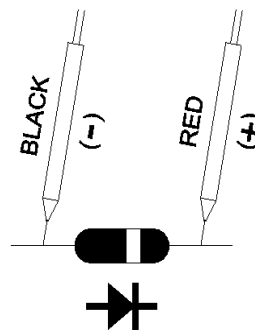

Fig.3
- b. When connected as shown in Fig. 3, a reverse check on the diode is made. If the diode under test is good, " — — — " will be displayed. If the diode under test is defective, " 0.000 " or other numbers will be displayed. Proper diode testing should include both steps a. and b. above.